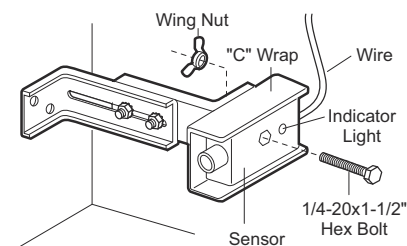

figure 6
- Use bracket mounting holes as a template to locate and drill (2) (4.8mm) diameter pilot holes on both sides of the door, (100mm). Max height is (100mm).
- Secure sensors with the hardware shown in Figure 6. Finger tighten the wing nut on the *receiving eye* to allow for final adjustment. Securely tighten the *sending eye* wing nut.